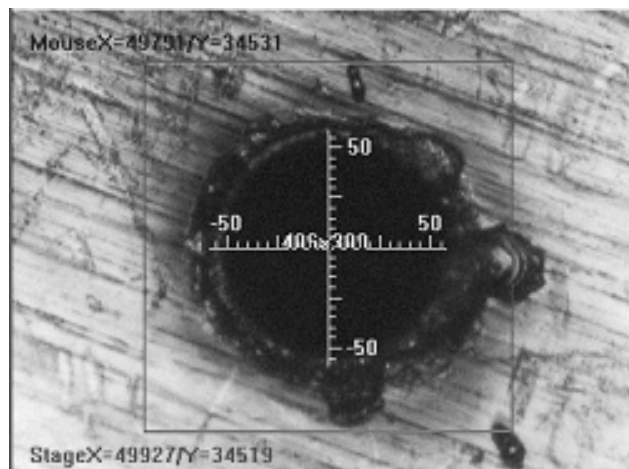

Figure 15: Visual Image of the 100 $\mu$ m Pinhole in Reflectance Mode
- While looking through the binocular eyepiece or observing the video image on the LCD monitor (in video assisted measurement mode) move the pinhole on the stage to align the hole with the cross-hairs. (See figure 15.)